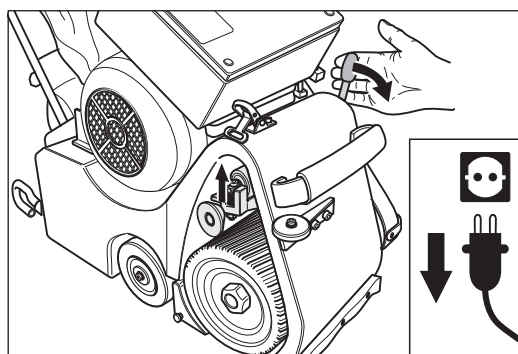

Fig. 60 Press the operating lever of the drive unit downwards.
- 6 If you wish to remove the tensioning roller of the drive unit (→ *Section 7.7, Replacement of tensioning roller*), press the operating lever of the drive unit downwards (Fig. 60).